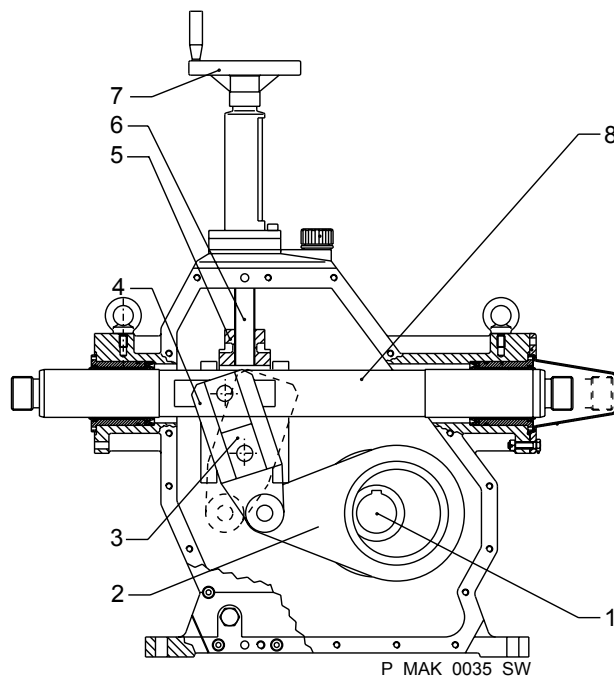

Fig. 10: Cross-section through the power end
A motor drives the cam shaft (1). A connecting rod (2) rests on the cam shaft (1) which allows the oscillating crank (4) to rotate about a variable pivot point, see Fig. 10. The lifting arm of the oscillating crank, which lies above the pivot point, moves the slide rod (8) which itself drives the liquid end.